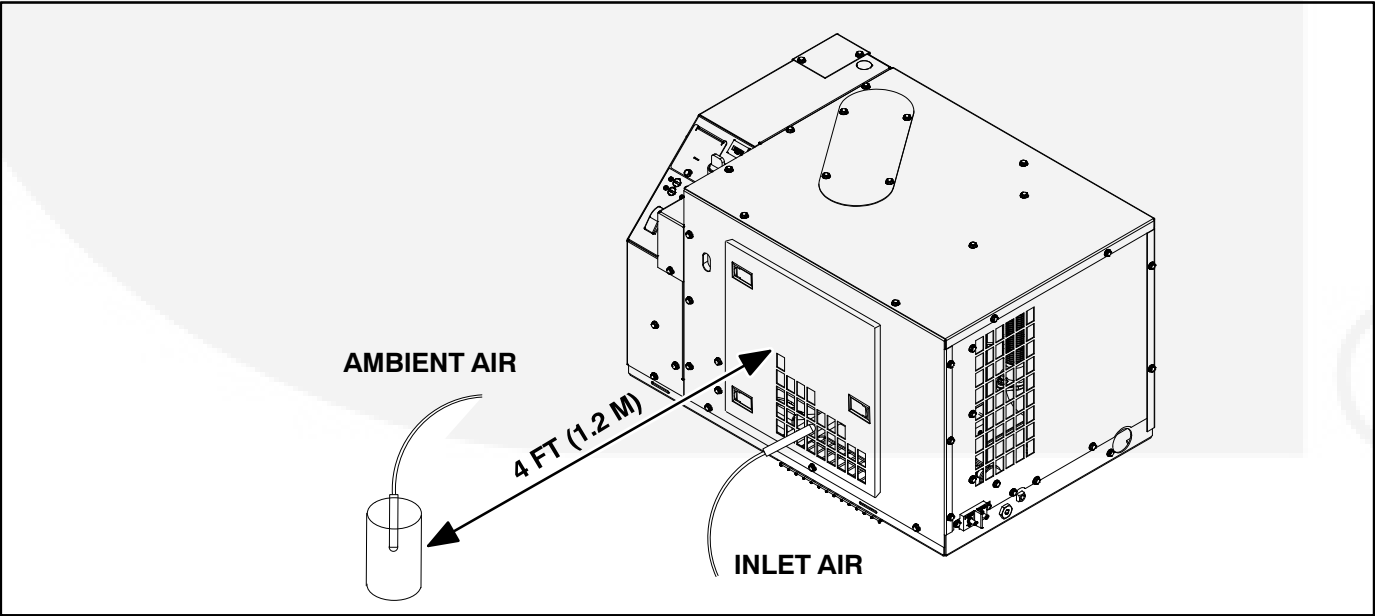

FIGURE 14. THERMOCOUPLE LOCATIONS
5. Measure genset inlet air temperature with one thermocouple tied in the middle of the inlet air grille (Figure 14).